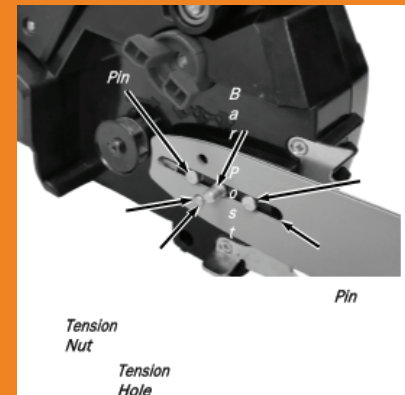

Figure 3
4. Position the Bar Slot over the Bar Post and Pins (**Figure 3**). Ensure that the Tension Nut is fully into the Bar Tension Hole.